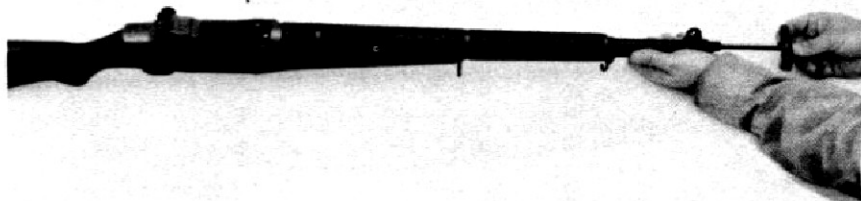

Figure 14. Removal of ruptured cartridge case.
----- Replace extractor (5, fig. 36 ). Remove cartridge case fig. 14 ).